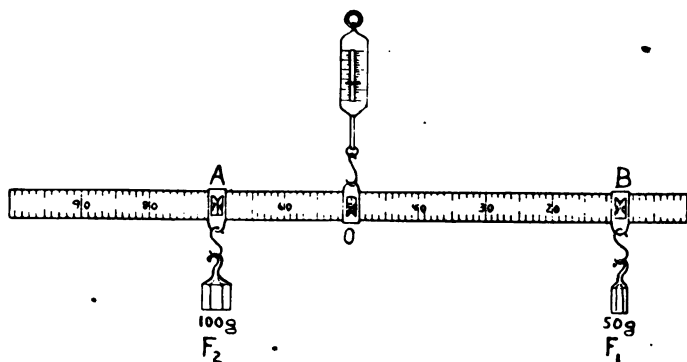

FIG. 256
the opposite way and the various parts of the lever move, with the exception of one point (O). It is about this point O that rotation takes place. O is called the *fulcrum*, which remains stationary. We have thus two forces pulling in one direction and a third force acting between them and in the opposite direction. Let us support a meter stick at its middle point O (Fig. 256) by means of the clamp and the spring balance. Let us place movable clamps, A and B , on either side of O and note the reading of the balance. This shows the downward pull of the meter stick and clamps. Let us now place a 100 g. weight on A and a 50 g. weight on B . If we place B at the 10 cm. mark, we find that A must be placed at the 70 cm. mark to produce equilibrium. The force F_1 acting upon B is one-half as great as the force F_2 acting upon A . The distance BO , however, is
(Fig. 256) by